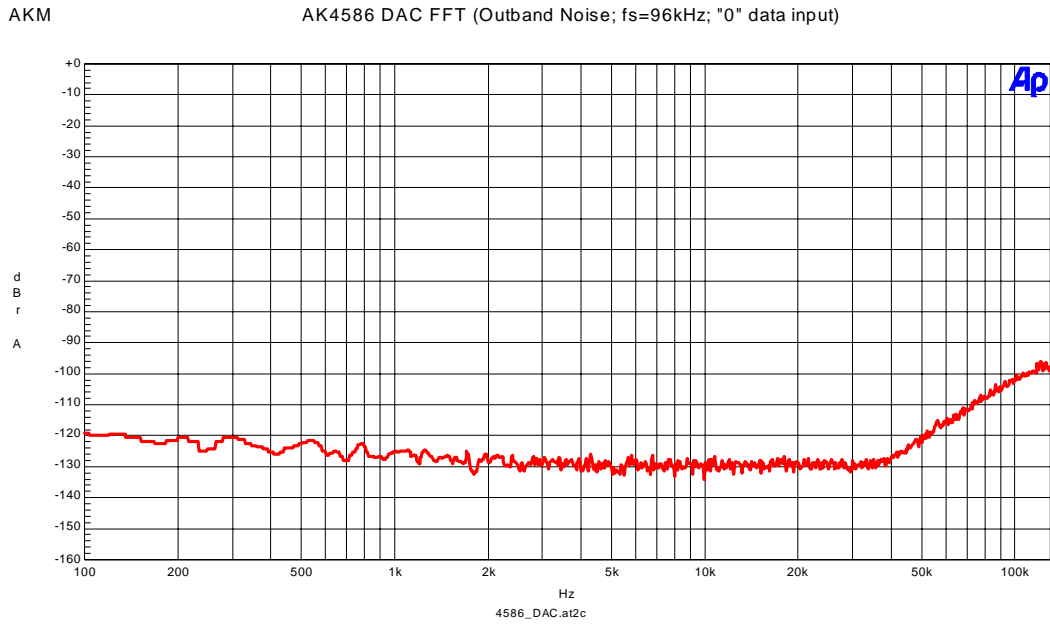

Figure 4-5. FFT (Outband noise)
- Figure 4-5. FFT (Outband noise)